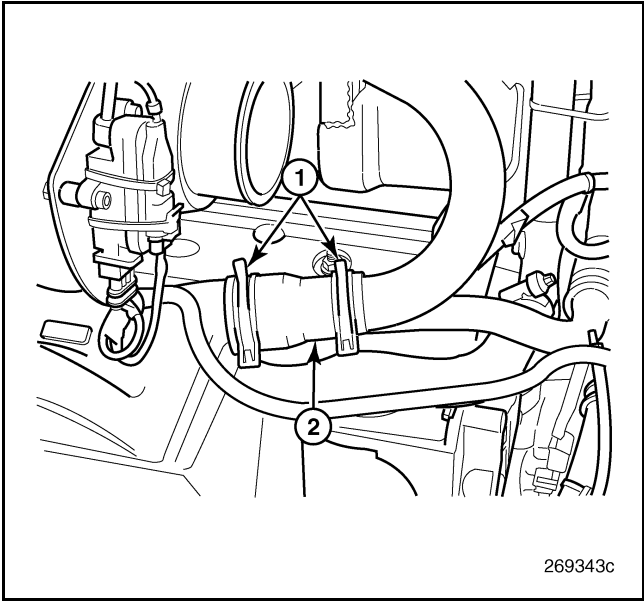

Figure 136 — Coupling Hose Clamps
3. Loosen and remove the clamps from the coupling hose at each end of the cool tube (Figure 136).